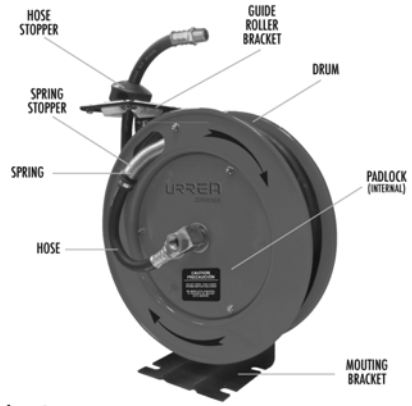

figure 1
OPERATION (See figure 1)
5. Mounting reel and secure the four bolts (not included) through the holes in the bracket. (See figure 1)